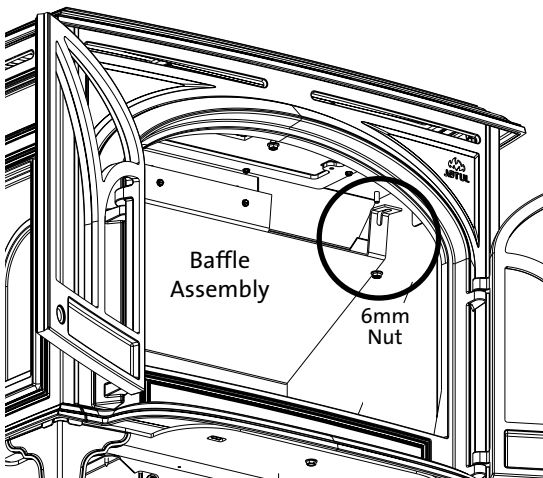

Figure 31.
9. **Baffle Conversion - Propane conversion only:** Remove two, 6 mm nuts to detach the steel baffle assembly from the firebox. See figs. 31 - 32.